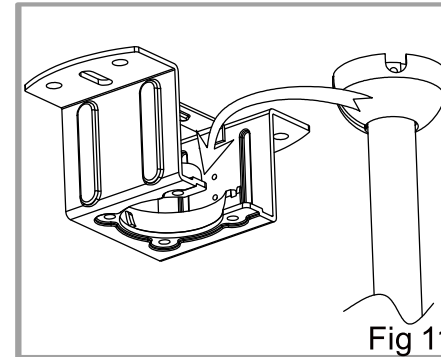

Fig 11
- 1) Lift the assembled fan onto the hanger bracket. (fig 11)